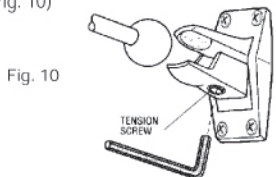

Fig. 10
5.2- Now, insert the short end of the hex wrench. Start tightening the hex tension screw. (See Fig. 10)